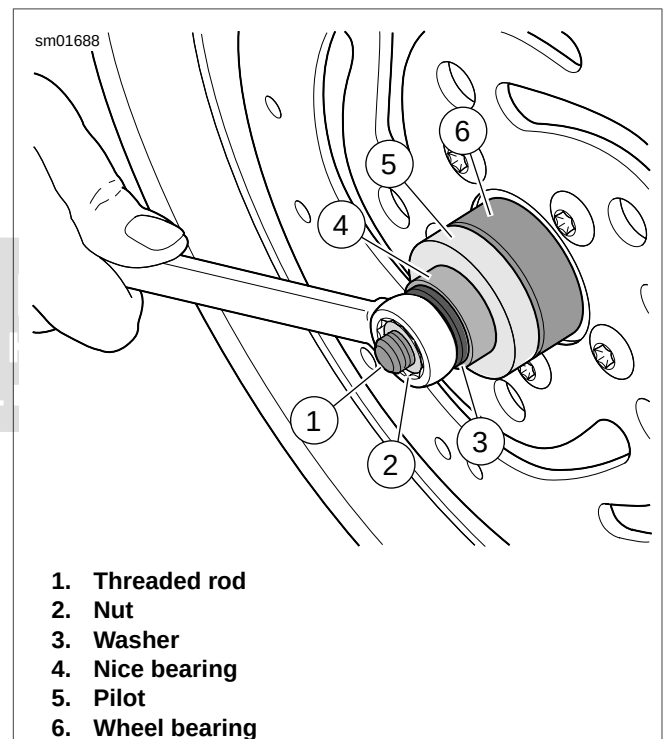

Figure 2-19. Installing Bearing
- c. See Figure 2-19. Place **new** bearing on rod (1) with lettered side facing out.
- d. Install pilot (5), Nice bearing (4), washer (3) and nut (2) over rod.